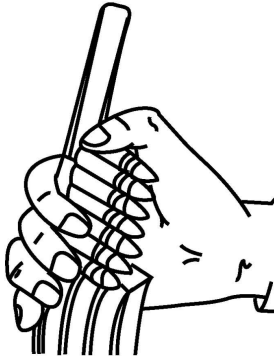

Figure 2-12. Loading Magazine with Stripper Clip
- (1) With the magazine filler in place, place a ten-round stripper clip in position. Using thumb pressure on the rear of the top cartridge, press down firmly until all ten rounds are below the feed lips of the magazine. Refer to Figure 2-12.